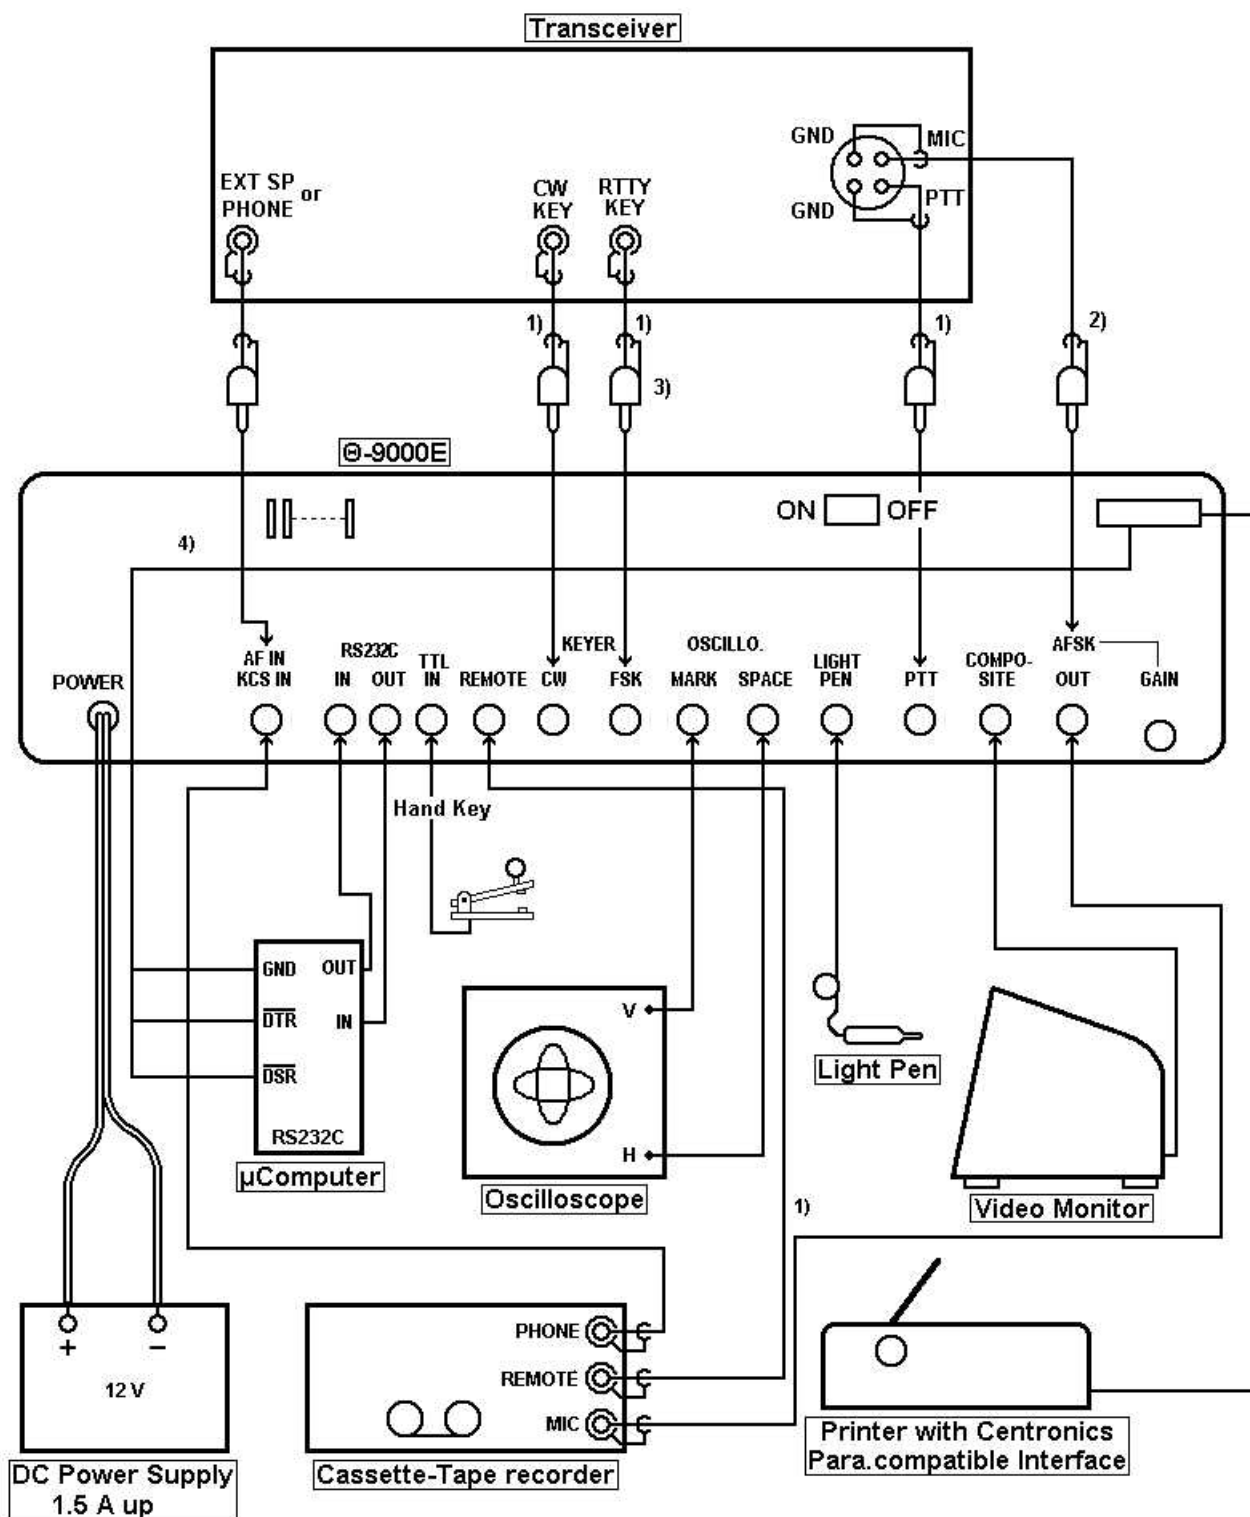

Figure 8 Connections to the peripheral equipment
Adjust the SWR as shown in Table 1 (page 7) to assure normal operation. For connections, refer to FIG. 8
- (1) Connect the hand keys to TTL IN jack as shown in Fig. 8.
- (2) Set to **INPUT=TTL** (refer to 5-1-1 (5)).
- (3) Depress **ESC E** ( **FUNC=E** is displayed on the screen).
- (4) When you manipulate the key, a reading and transmission are available at the same time. CW.FSK jack is switched ON or OFF corresponding to the operation of the key. You can transmit by switching the key terminal of transceiver.
- (5) To return to the receive mode, perform **INPUT=AF** following the procedure of 5-1-1 (5).